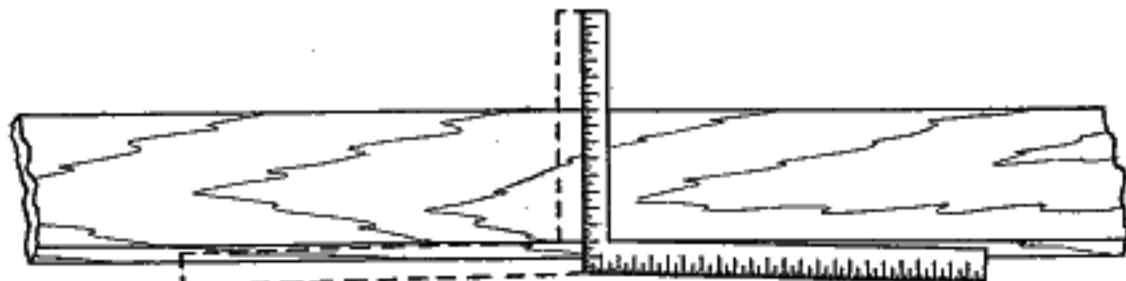

FIG. 5.—To test a square, square a line across a board that has a straight edge. Then turn the square over and see if the line checks square.
**4. Testing a Square.**—If a square is suspected of not being true, it may be tested easily. Use a board that has a perfectly straight edge. Place the blade of the square along the straight edge and mark a line across the board (presumably at right angles to the edge). Turn the square around (Fig. 5) and see if the line still checks square. If not, the square is not true.